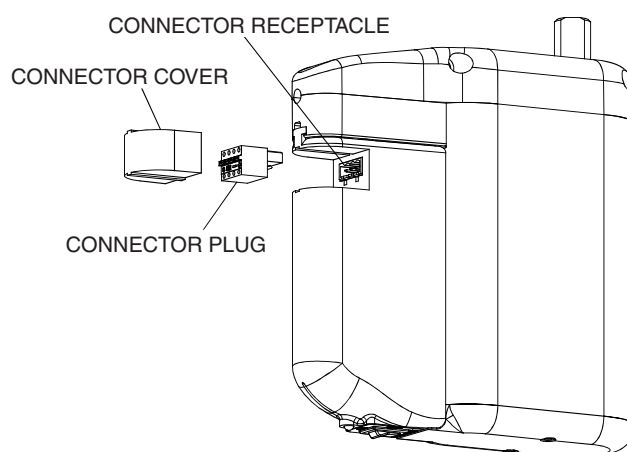

Figure 9
3. Refer to Figure 9, and PLUG connector into receptacle on battery pack.